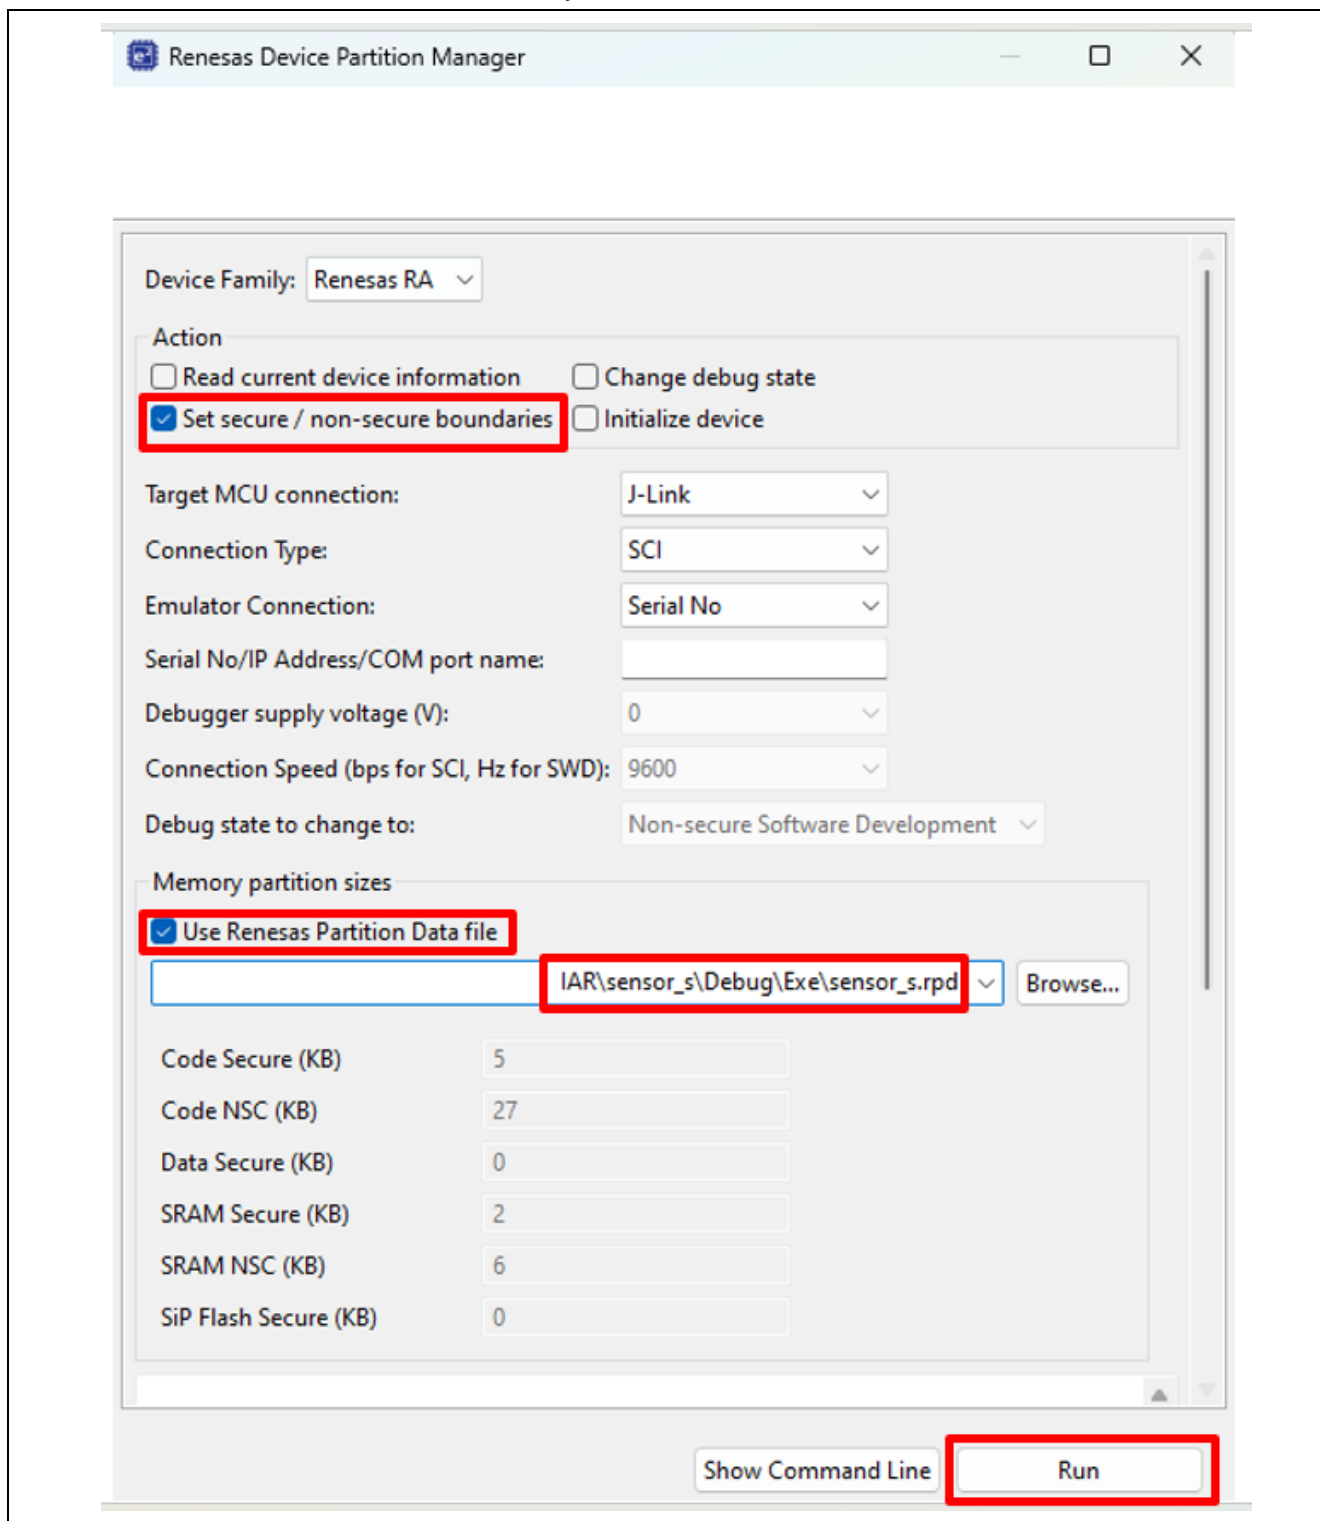

Figure 77. Configure the Renesas Device Partition Manager
Once the Renesas Device Partition Manager is launched, configure the settings as shown in Figure 77. Use **Browse** to select the .rpd file generated from the secure project (sensor_s.rpd) as the input for the **Use Renesas Partition Data file** entry.
9. Launch Device Partition Manager and set up the IDAU region using the `secure.rpd` in a similar way as in Figure 77.